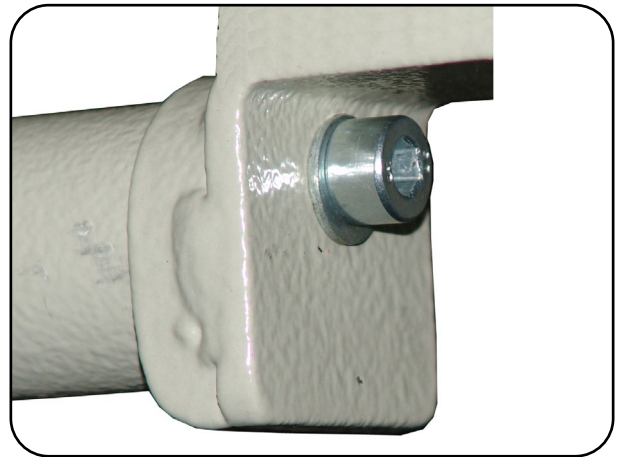

Fig. 6.1.02 – Support mounting for head support
5. Remove the two M8 x 16 cylinder head bolts with spring washer on the side of the support mountings for the head support (Fig. 6.1.02).
7. To fasten the head support in place, tightly screw in the two M8 x 16 cylinder head bolts with spring washer into the support lugs on the side (Fig. 6.1.02).